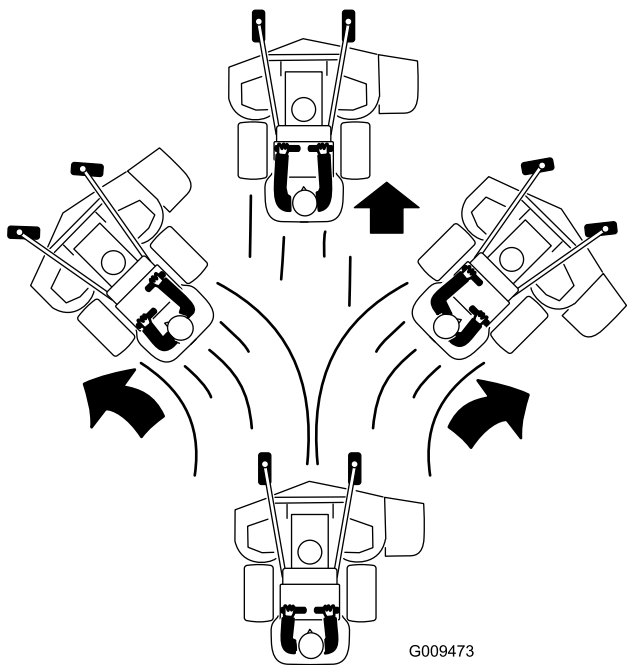

Figure 19
3. Slowly push the motion-control levers forward (Figure 19).